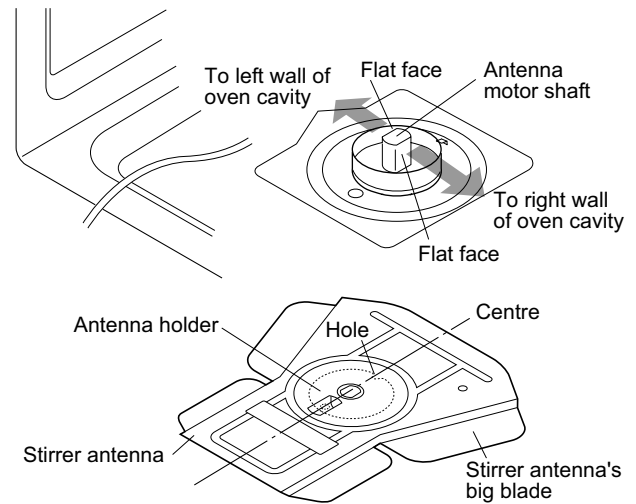

Figure C-9. Direction of Antenna Motor Shaft and Stirrer Antenna Assembly
1. Install the antenna motor shaft into the hole of the oven cavity bottom plate, and turn the flat faces of antenna motor shaft to the left and right side walls of oven cavity (to fit the stirrer antenna holder). Refer to Figure C-9.
2. Set the direction of the stirrer antenna and antenna holder so that the hole of the antenna holder fit to the centre of the stirrer antenna's big blade. Refer to Figure C-9.